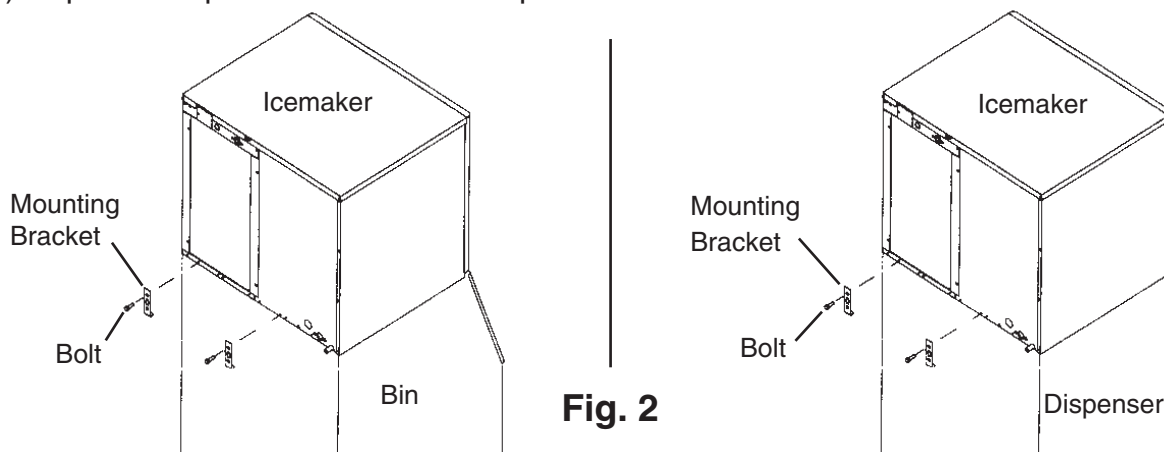

Fig. 2
- 4) Secure the icemaker to the storage bin/dispenser unit using the two mounting brackets and the bolts provided. See Fig. 2.